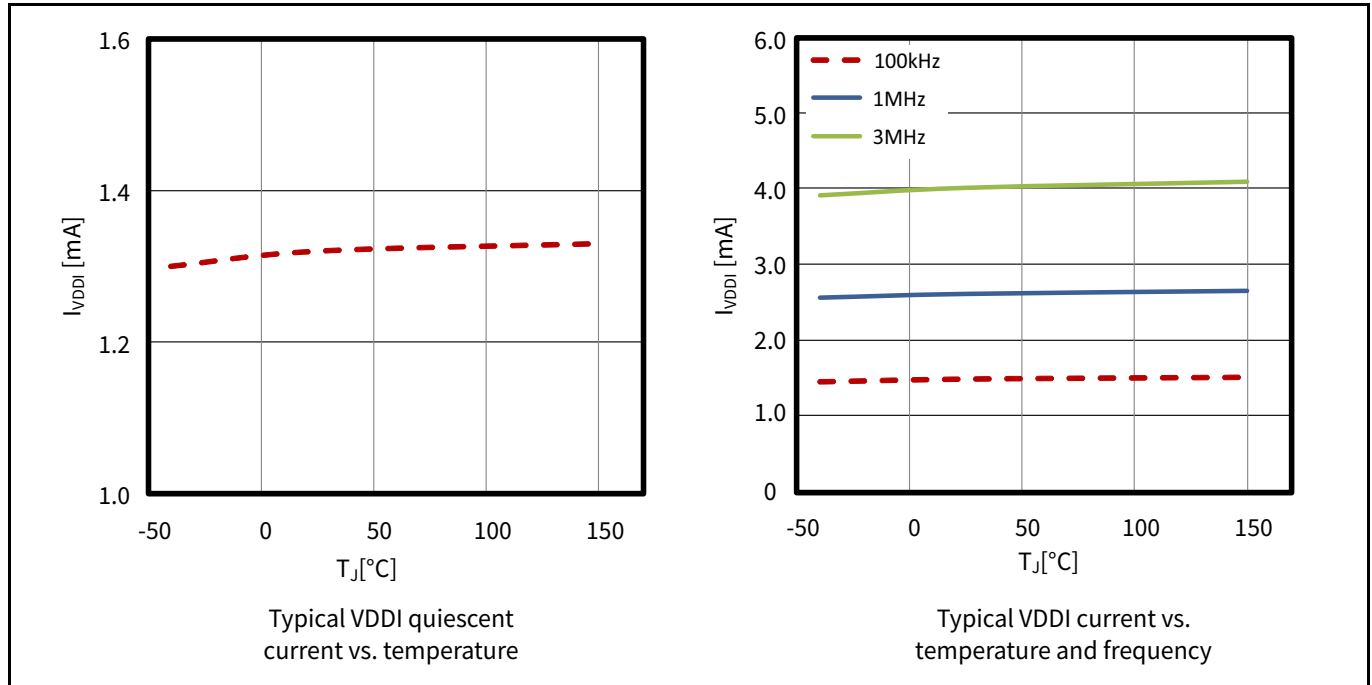

**Figure 5** UVLO behavior, start-up and deactivation time (unloaded output)
**Figure 5** illustrates the UVLO behavior. It depicts the reaction time to UVLO events when the supply crosses the UVLO thresholds during rising or falling transitions (power-up, power-down, supply noise).
| Figure 5                          | fixed typo                                                                                                                     |